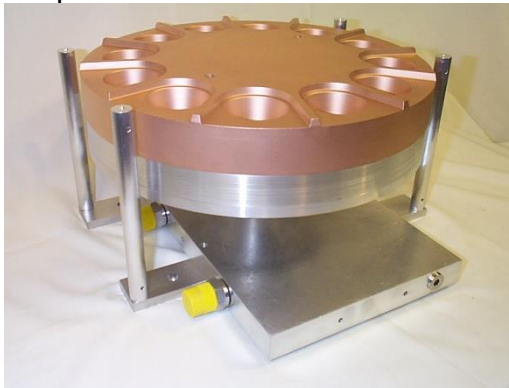

Figure 2 Crucible Base Plate Assembly
- 2** Relative position of anode plate, beam former and filament must be precise to .005". (Refer to Figure 2-A) The filament (coils forward!) normally projects 1/2 of its diameter or slightly more (2/3) below beam former. Clearance between these three elements should be judged, based on performance, with a well calibrated,
- 9** Install the new filament making sure that the filament orientation is correct (see figure 2-A). Use new #6 x 1/4" screws, loosely mount the filament clamps in place. Gently tap the emitter assembly on a flat surface to settle the filament into place. Slide the filament clamp on the right cathode block until it is flush with the right side of the block. Snug the right #6 x 1/4" screws. Gently push the left hand clamp into place. NOTE: Sliding this clamp can cause the filament to warp or bow. Snug the left #6 x 1/4" screws. Now check the alignment of the filament to the beam former.